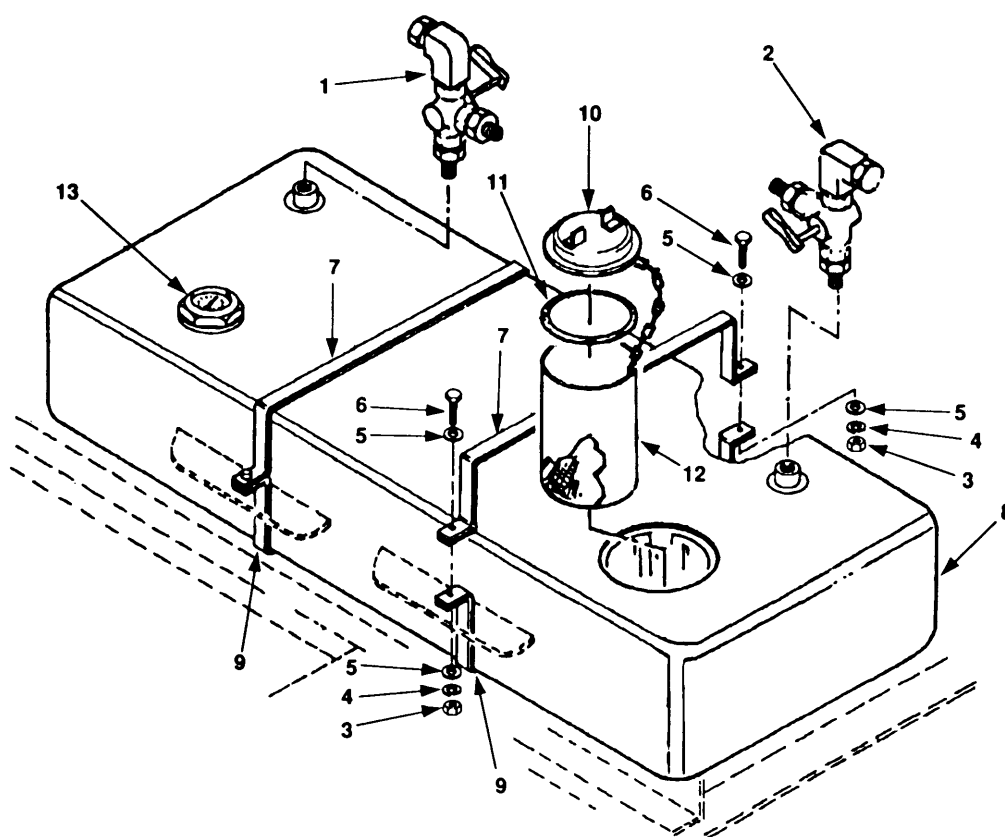

Figure 5-16. Fuel Tank Maintenance.
- b. Remove three-way fuel selector valves (figure 5-16, 1 and 2).
- c. Remove four nuts (3), lockwashers (4), eight washers (5), and four bolts (6).
- d. Remove top two straps (7) .
- e. Remove fuel tank (8) and bottom two straps (9) from frame.
- a. Clean exterior of fuel tank (8) with solvent.
- b. Flush interior of fuel tank (8) with solvent.
- c. Purge fuel tank (8) with continuous flow of clean water.
- d. Inspect fuel tank (8) for leakage.
- e. Remove filler cap (10).
- f. Inspect filler cap gasket (11) and strainer (12) for damage.